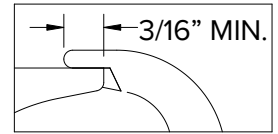

Fig. 1
- > Keeper extends into the bill, 3/16" min. (Fig. 1)